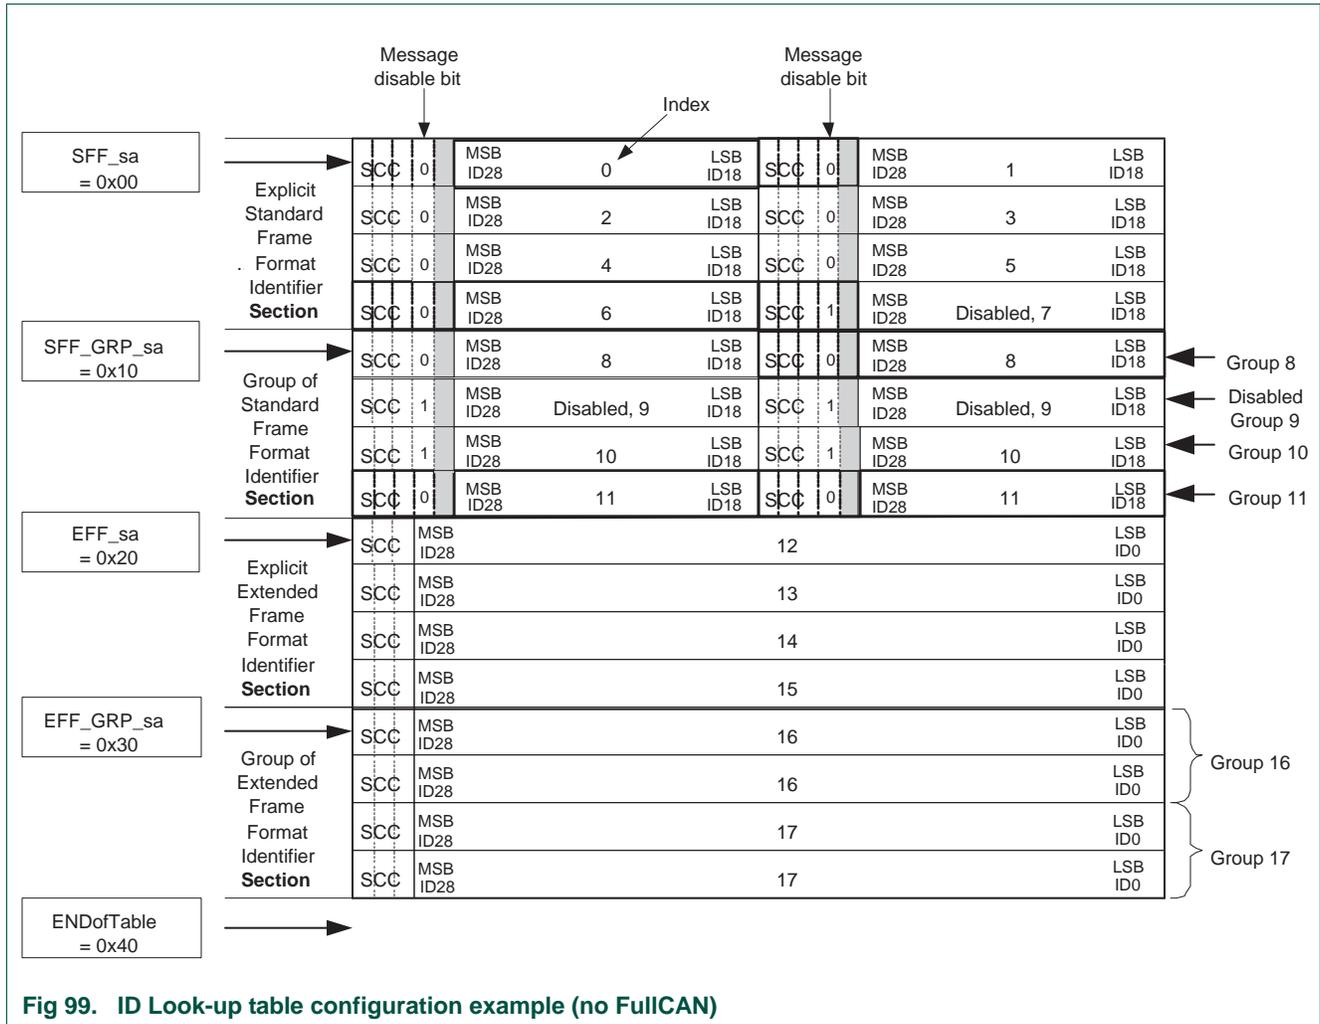

Fig 99. ID Look-up table configuration example (no FullCAN)
The Table below shows which sections and therefore which types of CAN identifiers are used and activated. The ID-Look-up Table configuration of this example is shown in Figure 99.
**Explicit extended frame format identifier section (29-bit CAN ID, Figure 99)**
**Group of extended frame format identifier section (29-bit CAN ID, Figure 99)**